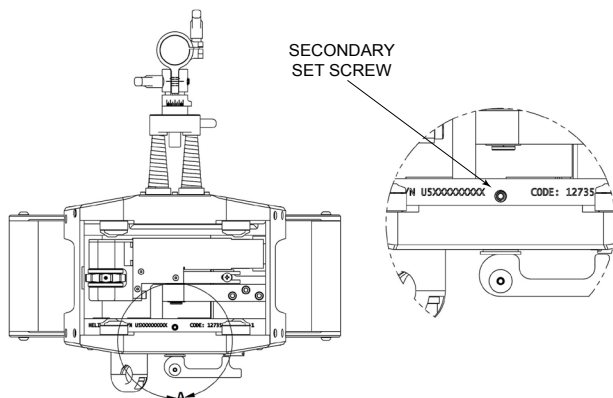

FIGURE 20 - Secondary Clamp Set Screw
2. Then loosen the secondary set screw on the underside of the HELIX M85, see **Figure 20 - Secondary Clamp Set Screw**.